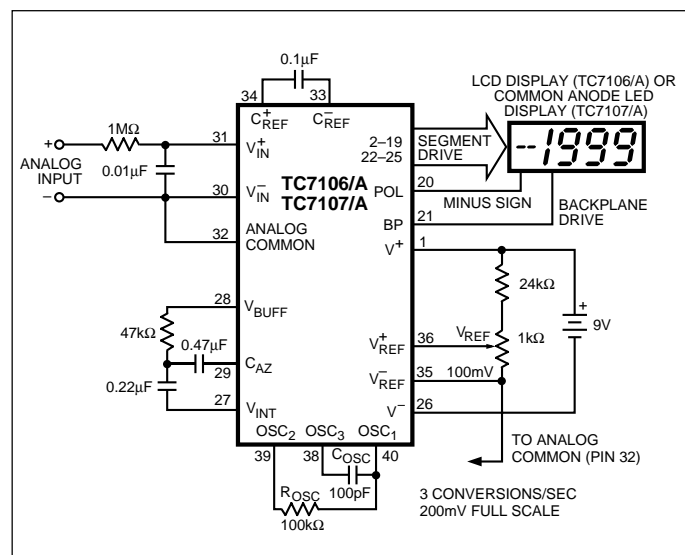

Figure 1. TC7106/A/7/A Typical Operating Circuit
3. Unless otherwise noted, specifications apply to both the TC7106/A and TC7107/A at TA = 25°C, fCLOCK = 48 kHz. Parts are tested in the circuit of Figure 1.